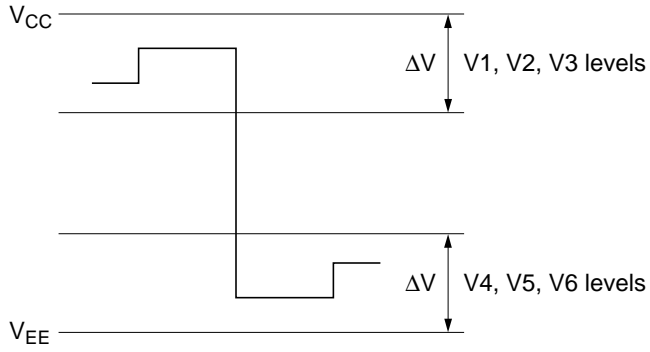

Figure 36 Driver Output Waveform and Voltage Levels
4. $\Delta V = 0.35 \times (V_{CC} - V_{EE})$. For levels V1, V2, and V3, the voltage employed should fall between the V_{CC} and the ΔV and for levels V4, V5, and V6, the voltage employed should fall between the V_{EE} and the ΔV (figure 36).
- $\Delta V = 0.35 \times (V_{CC} - V_{EE})$. For levels V1, V2, and V3, the voltage employed should fall between the V_{CC} and the ΔV and for levels V4, V5, and V6, the voltage employed should fall between the V_{EE} and the ΔV (figure 36).